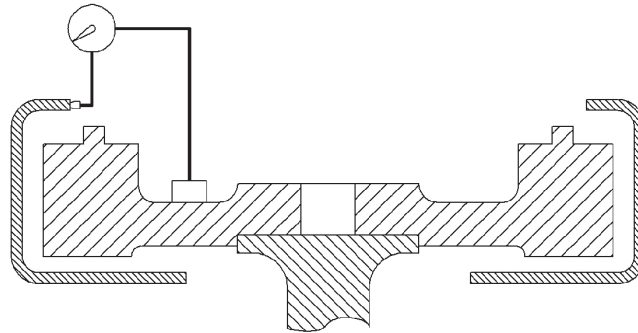

Figure 6. Checking Flywheel Housing Bore Eccentricity
3. With the indicator mounted as in the above paragraph, adjust the indicator stem so that it will ride on the bore of the engine flywheel housing. See Figure 6.